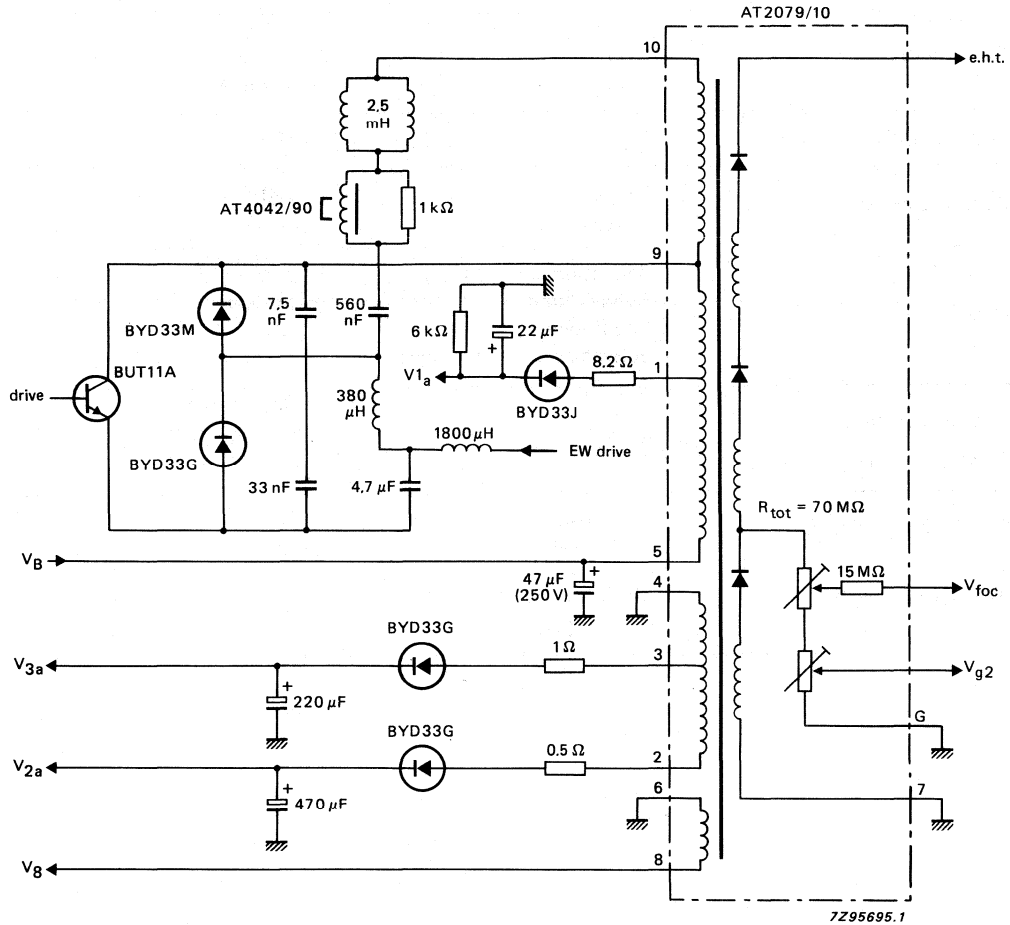

Fig. 3 Application circuit with diode modulator.
**ELECTRICAL DATA;** see application circuit with diode modulator, Fig. 3.